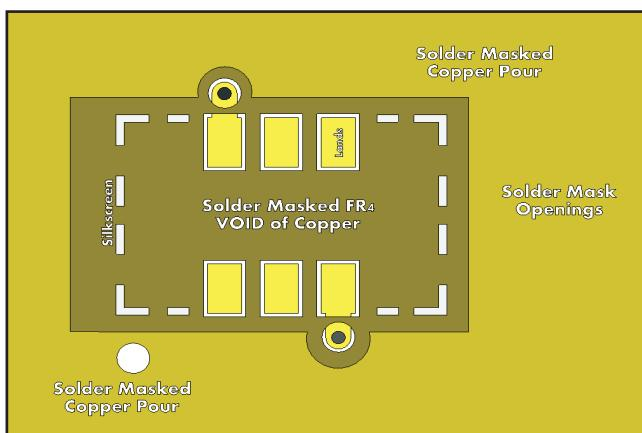
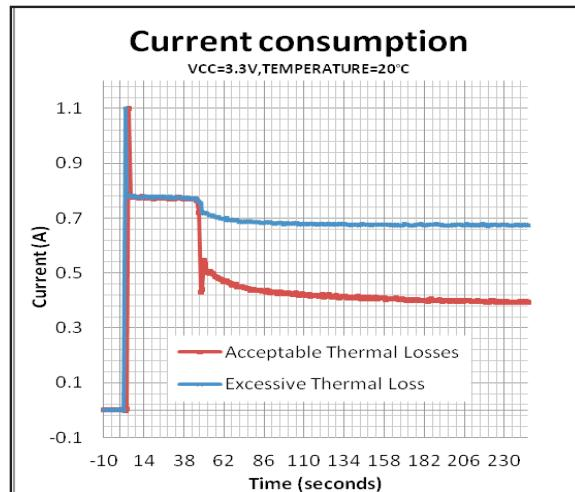

Figure: 16-02
Figure: 16-03
11. To reduce unwanted thermal gains/losses, open a window in any top level copper pours under the device. Excessive thermal losses may result in higher than normal current consumption or complete device failure. See Figure 16-03. Excessive thermal gains will overheat the oven core causing frequency instability. FIGURE 16-02 illustrates a how to properly flood a top layer while creating a "window" under the OCXO.